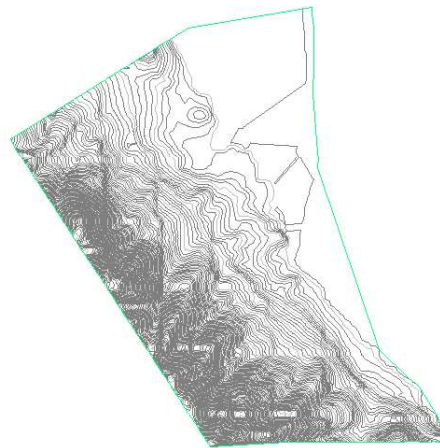

Figure 3-79 Surface created from GIS data
10. Enter **ZE** at the Command prompt and press ENTER to zoom to the extent of the drawing. The surface created from GIS data is displayed, as shown in Figure 3-79.